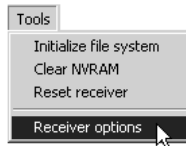

Figure 4-12. Tools->Receiver Options
2. Click **Tools->Receiver Options** (Figure 4-12).